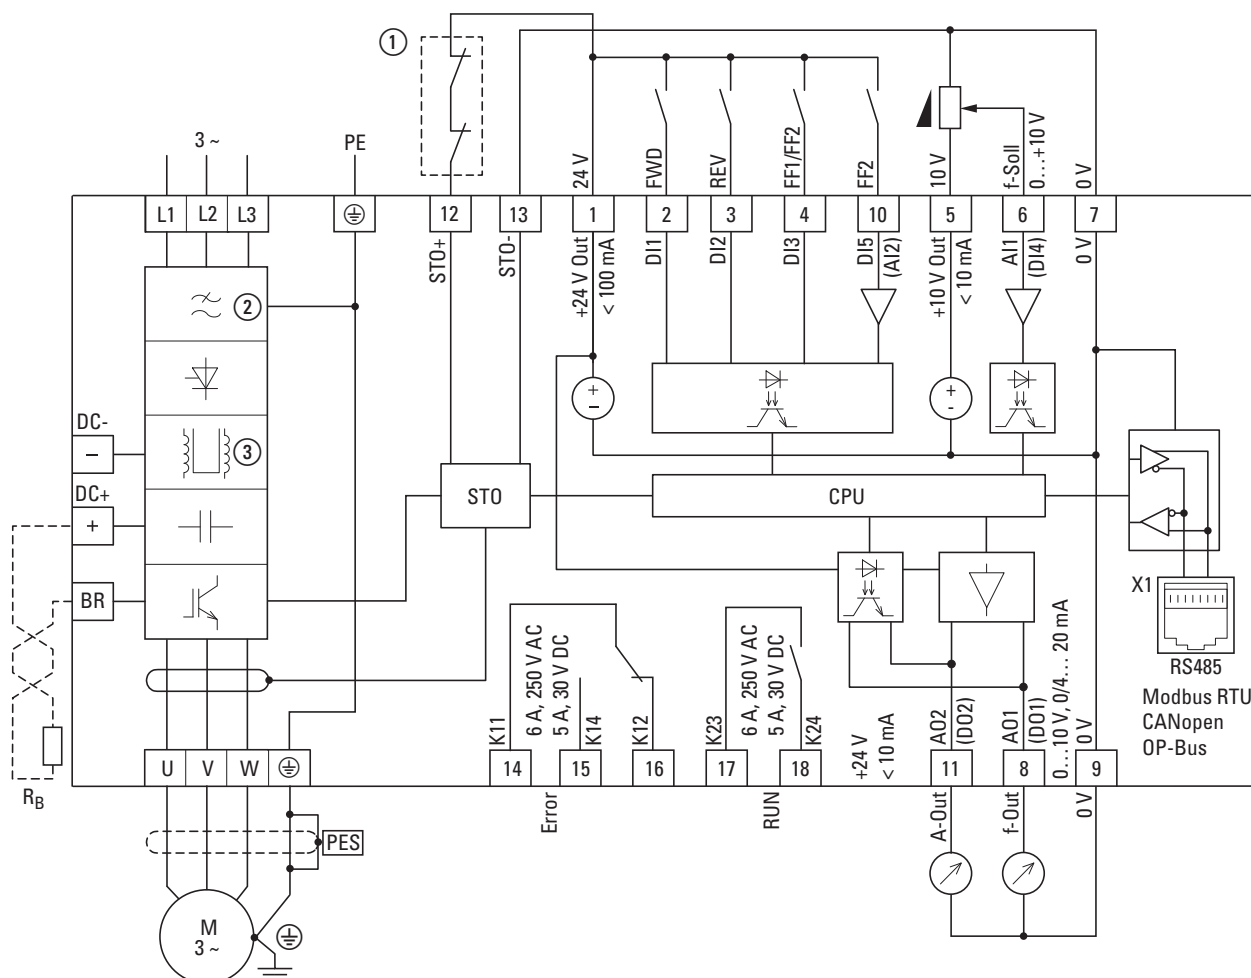

Figure 87: DA1-...-B55C block diagram
- ① Direct enable of the STO function or relay: Safe Torque Off (STO), SIL 2 (EN 61800-5-2) as seen in → figure 87, page 120.
② The RFI filter is not contained in the DA1-35-...-B6XC device.
① Direct enable of the STO function or relay: Safe Torque Off (STO), SIL 2 (EN 61800-5-2) as seen in → figure 87, page 120.